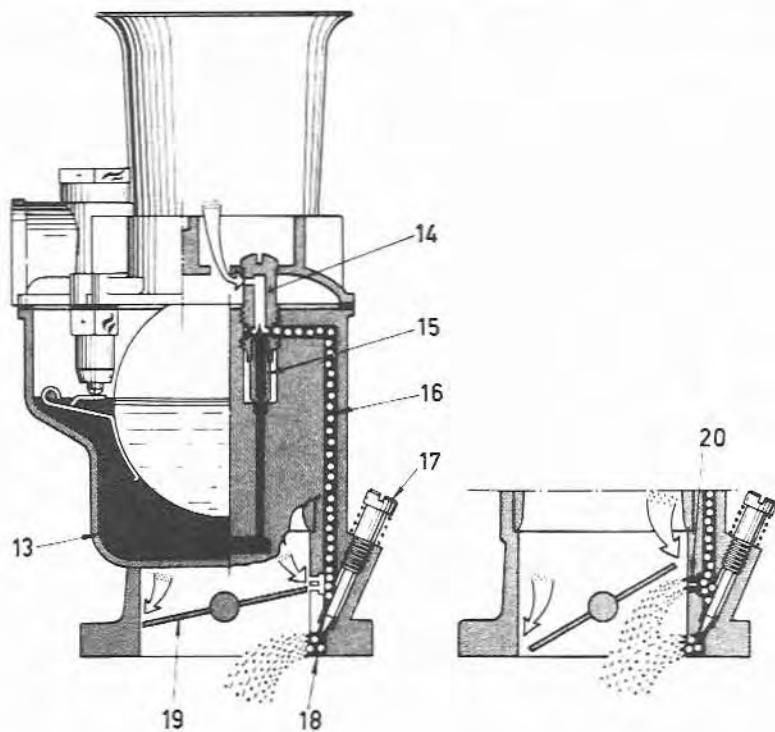

Fig. 8.3 Idling and progression phase (46 IDA and 48 IDA) (Sec 3)
Refer to Fig. 8.3 and note that when the engine is idling with the throttle valves (19) closed, fuel is drawn from the float chamber (13) to the idling jets (15) where it becomes emulsified with air entering through the calibrated orifices in the idling jet holders (14). The mixture then travels through the channel (16), past the adjustable mixture screws (17), through the idling feed holes (18) and into the carburetor throats at the engine side of the throttle valves. The idling mixture screws (17) have tapered ends and can therefore be adjusted to admit more or less mixture as necessary.